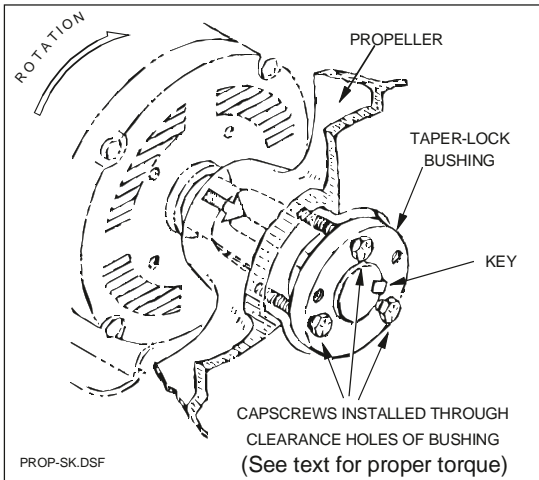

Fig. 3 - Capscrew arrangement for reassembly
- Rotate the bushing and propeller so their alignment marks are in line and loosely attach the propeller to the bushing. MAKE SURE THE CAPSCREWS ARE INSERTED INTO THE UNTHREADED CLEARANCE HOLES IN THE BUSHING. Refer to previous CAUTION note. Locate the bushing so it is approximately flush with the end of motor shaft. See Fig. 3.